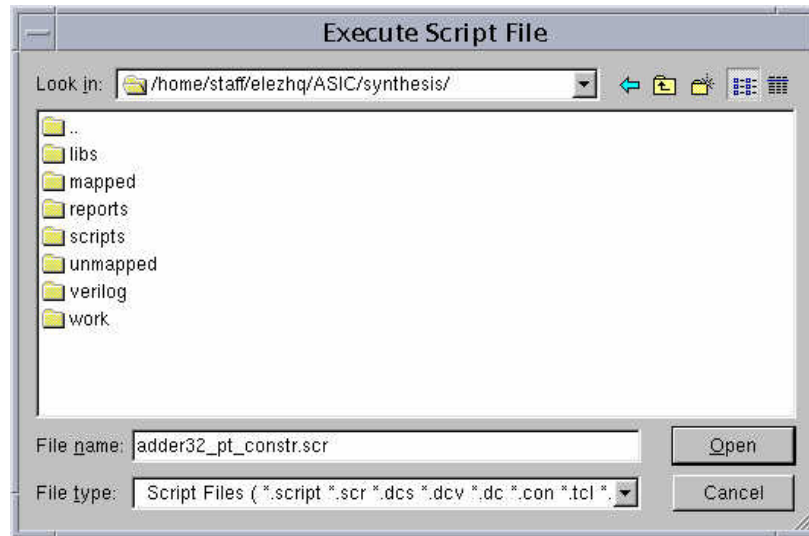

Figure 6-11 Execute Script File window.
3. Constrain the design with the constraint file. On the primetime window, click on **File→Execute Script...** The Execute Script File window appears as shown in figure 6-11.